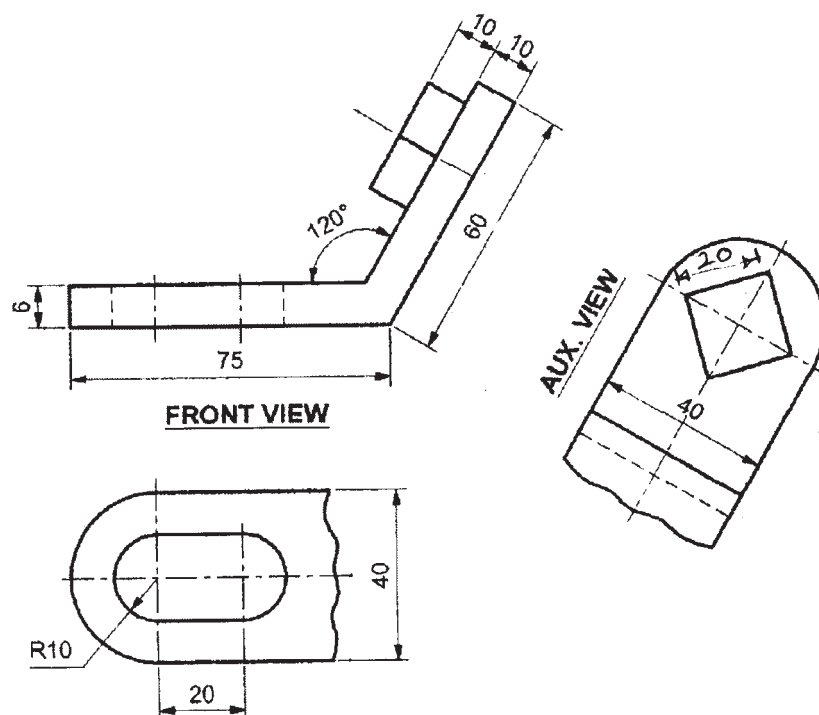

**Fig. No. 1**
- g) State the meaning of the symbol shown in Figure No. 1.